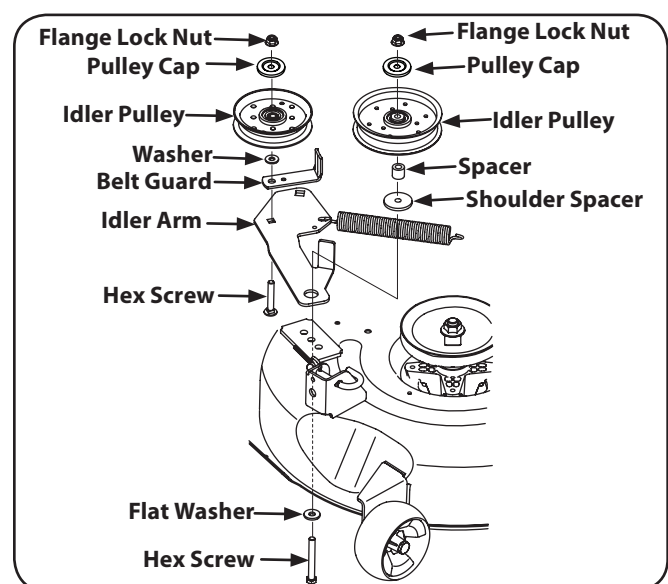

Figure 7-11
3. Remove the two idler pulleys by removing the hex screws and flange lock nuts that secure them to the deck and the idler arm. See Figure 7-11. Do not lose any of the hardware when removing the hex screw and flange lock nut.
6. Place the belt around the idler pulleys removed in step 3 with the "V" side facing in. Once in place, reinstall all the hardware and tighten the flange lock nut to secure the assembly. See Figure 7-11.
7. Route the belt as shown in Figure 7-11 and then reinstall the deck (refer to Deck Installation on page 29).